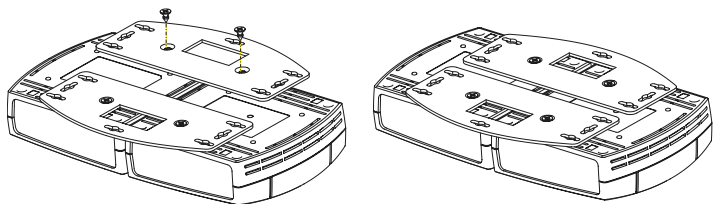

Figure 4
3. By attaching the SNYSC1 and the SIRIUS SCC1 tuner together. To connect the devices together, simply remove the mounting brackets from each device, rotate them 90°, and connect them together as shown in Figure 4.